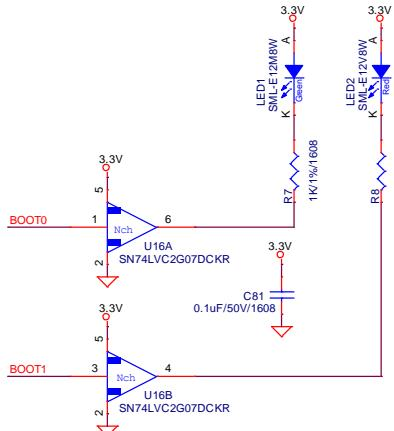

Figure 2-6 Example of using the LED that shows the TX/RX status of R9A06G061
- Figure 2-6 shows an example of using the LED that shows the transmission / reception status of R9A06G061.